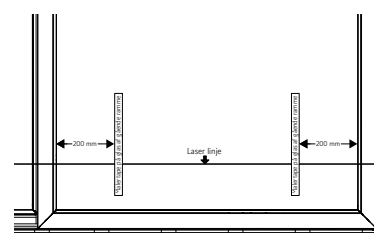

Figure 11: Laser position 3
16. Adjust each shim in height by sliding the sash back and forth so one of the tape pieces is directly above the shim. Repeat for all shims. The laser height must match the line on the tape (figure 11).